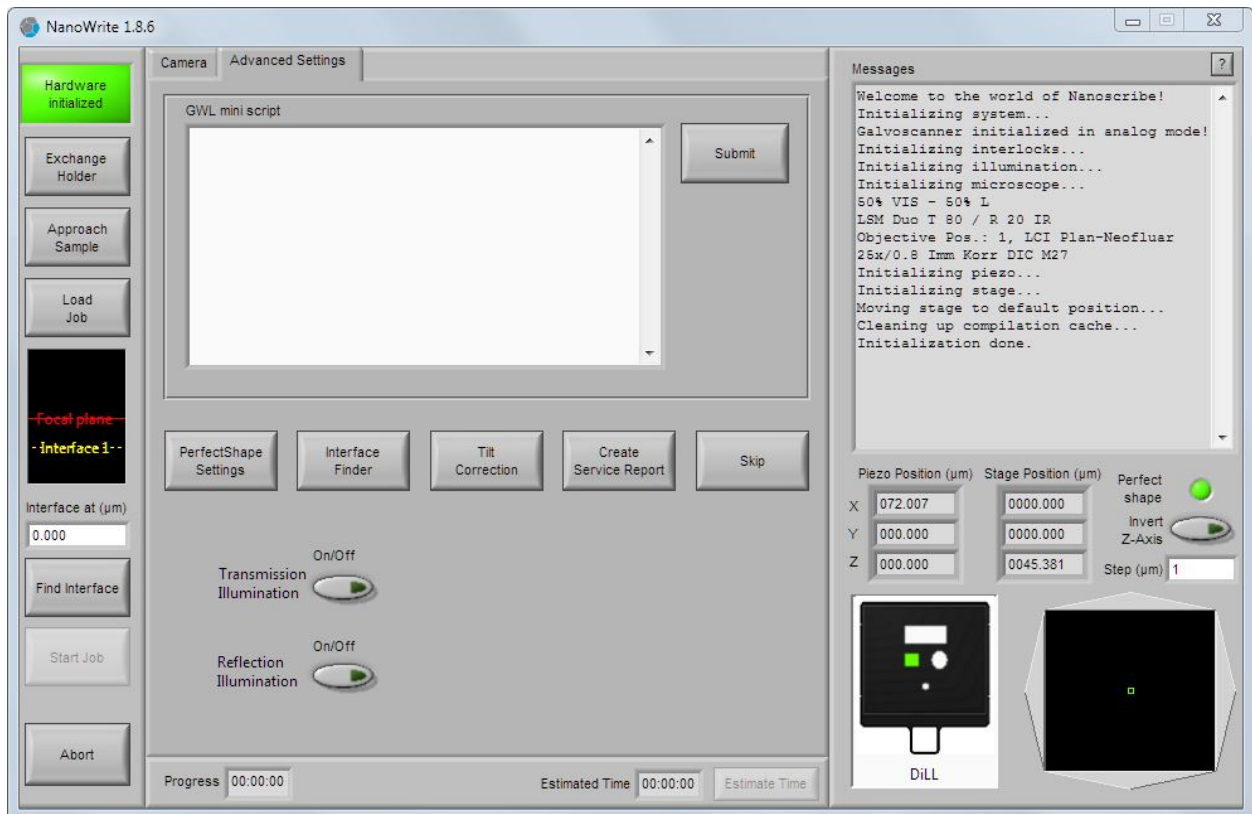

Figure 4.1.: Main application window of NanoWrite
NanoWrite provides an easy-to-use graphical user interface for controlling your Photonic Professional (GT), see figure 4.1. It interfaces with and integrates the system hardware described in chapter 3. Although NanoWrite contains facilities for manual control and system calibration, its main purpose is to drive the fully-automated direct laser writing process while allowing you to easily monitor the system status and writing progress. For this purpose, NanoWrite features a built-in live display of the microscope camera.